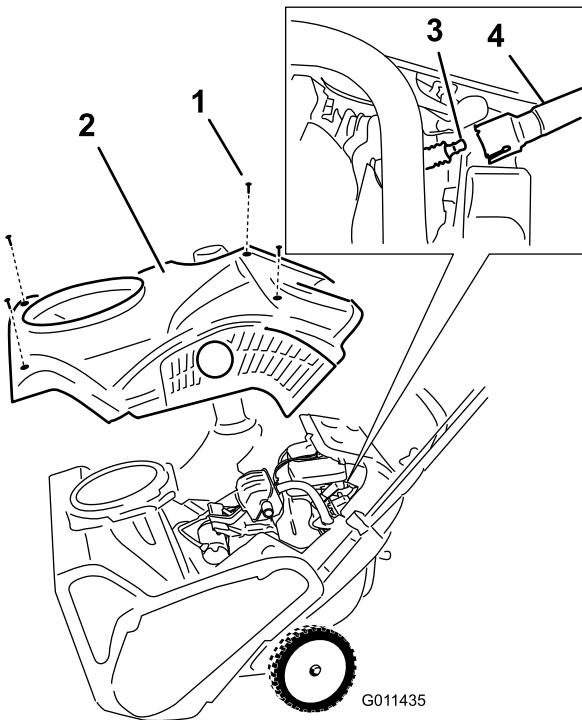

Figure 34
4. Remove the 4 screws that secure the shroud (Figure 34).
1. Screw (4)	3. Spark plug
6. Remove the shroud (Figure 34).